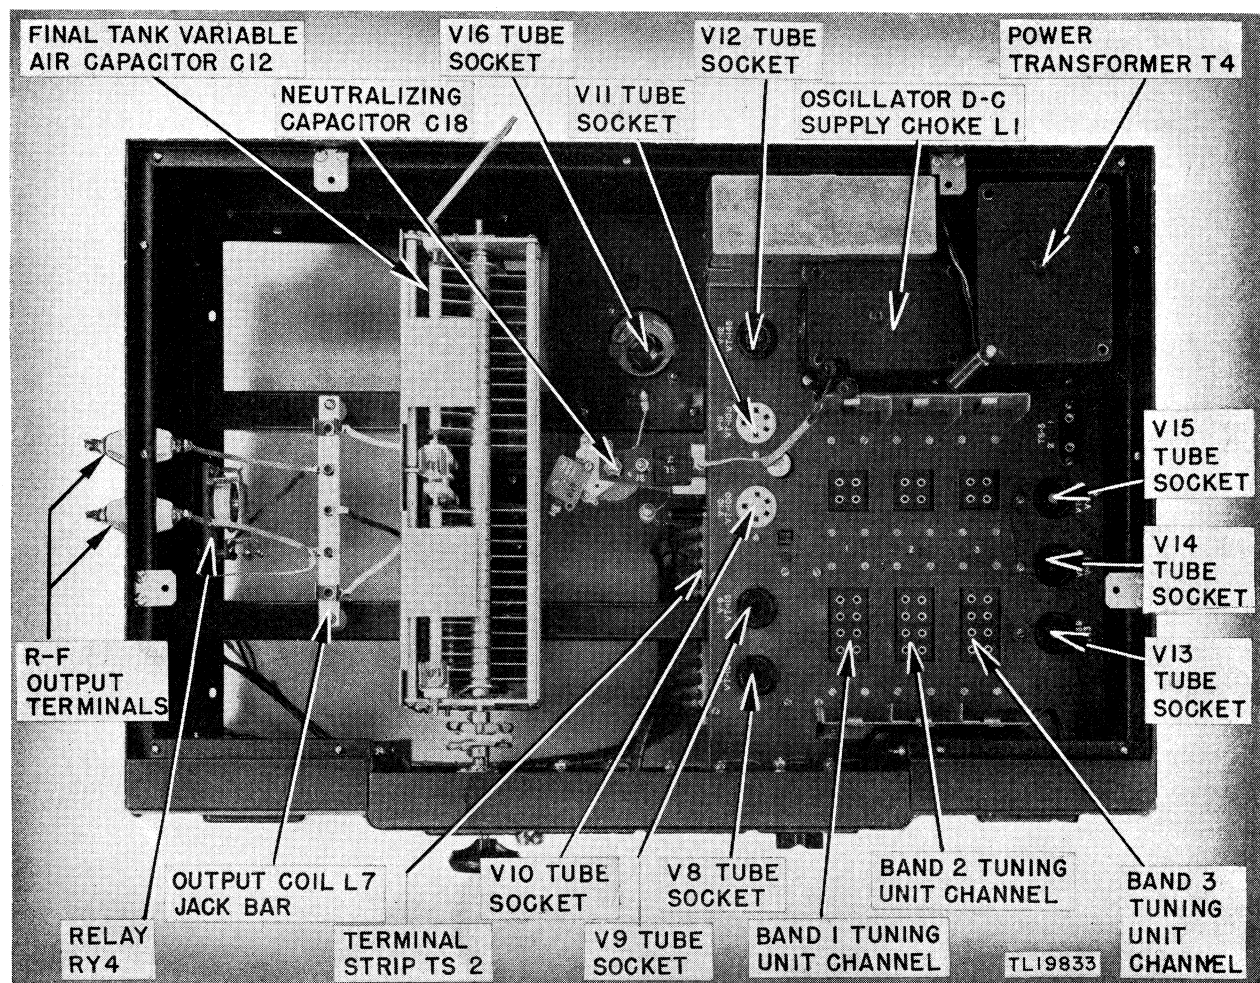
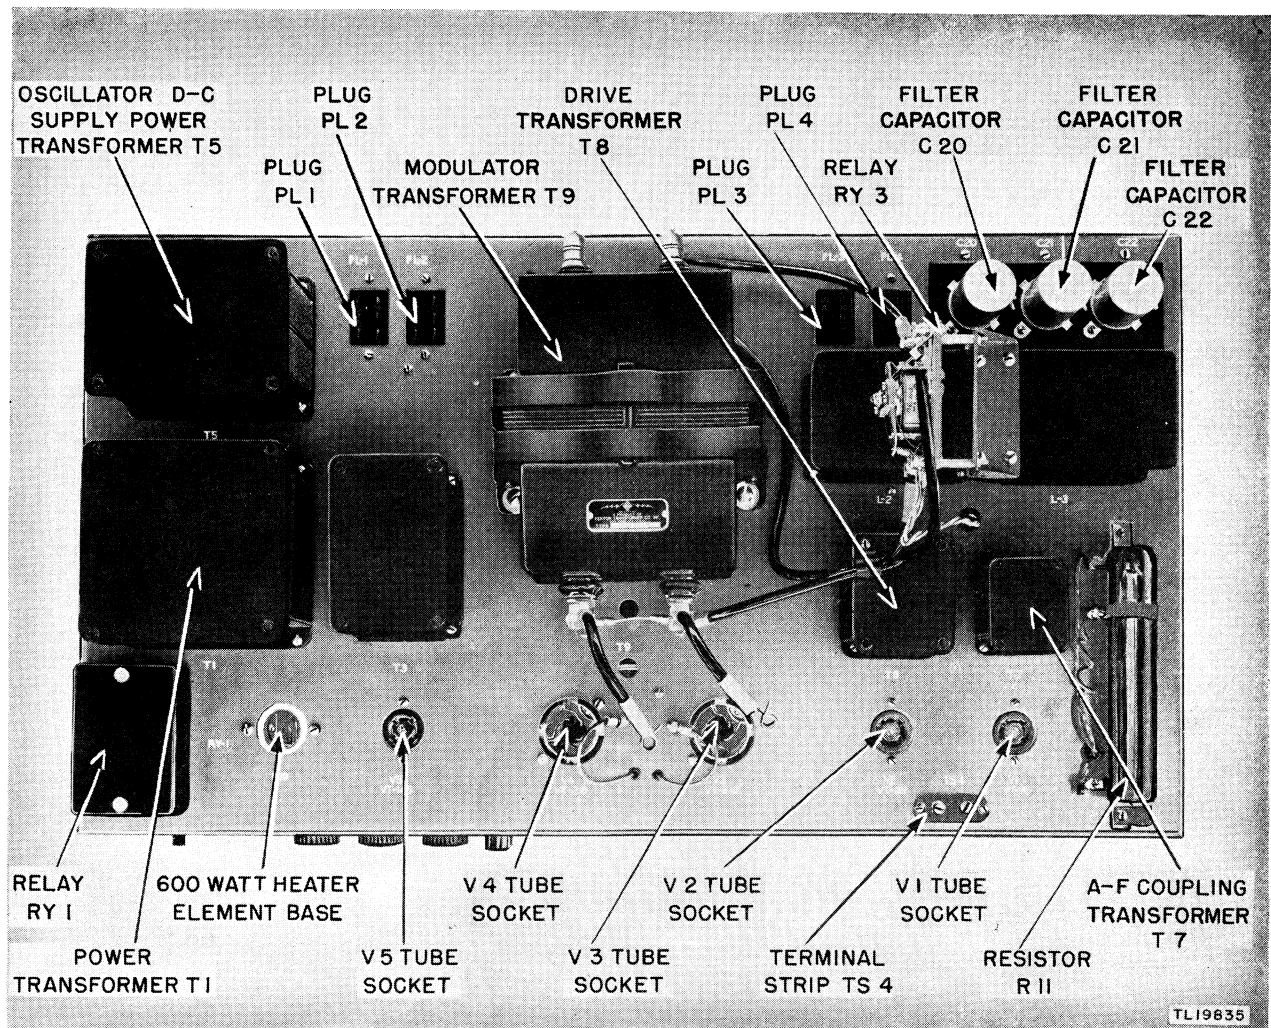

Figure 9. Radio Transmitter BC-610-A, -B, -C, and -D, r-f section, top view, less tubes, tuning units, coil unit, and vacuum capacitor.
Figure 11. Radio Transmitter BC-610-A, -B, and -C, modulator section, top view.
<p>ABCD</p> <p>M2, according to position of switch SW9, indicates plate current of buffer-doubler tube V9, and intermediate-amplifier tubes V10 and V11. (See figs. 9, 42, 43, and 44.)</p>	<p>E</p> <p>M2 (switch SW9 is not present) indicates plate current of p-a tube V16. (See figs. 9 and 45.)</p>
<p>ABCD</p> <p>M3 indicates filament voltage for p-a Tube V16. (See figs. 9, 42, 43, and 44.)</p>	<p>E</p> <p>M3 indicates same as ABCD. (See figs. 9 and 45.)</p>
<p>ABCD</p> <p>M5 indicates plate current of p-a tube V16. (See figs. 9, 42, 43, and 44.)</p>	<p>E</p> <p>M5 is omitted. (See fig. 45.)</p>
<p>ABCD</p> <p>Connection between resistors R26 and R27 is made through terminal 4 of terminal strip TS2 on models A and B, whereas the resistors are directly connected on models C and D. (See figs. 9, 42, 43, and 44.)</p>	<p>E</p> <p>Due to different meter arrangement, meter shunt resistors R28 and R33 are used in addition to resistors R26 and R27, and all four resistors are connected to socket SO11. (See fig. 45.)</p>
<p>ABCD</p> <p>Connection to terminal strip TS2 from the upper control panel for terminals 5, 6, 7, 8, 9, 10, 11, and 12 are made directly. (See figs. 9, 42, 43, and 44.)</p>	<p>E</p> <p>Connections to terminal strip TS2 from the upper control panel for terminals 5, 6, 7, 8, 9, 10, 11, and 12 are made through plug PL11 and socket SO11. (See fig. 45.)</p>
a. TUBES. (1) Tube JAN-250TH (V16) (VT-220) (fig. 9) and Tubes JAN-100TH (V3 and V4) (VT-218) (figs. 11 and 12). To remove tubes, disconnect grid connection from side of tube, and plate spring clip from top of tube; turn the tube counterclockwise until unlocked, and lift out of socket.
(2) *Tubes JAN-807 (V10 and V11) (VT-100) (fig. 9).* To remove tubes, disconnect plate spring clip from top of tube and lift tube out of socket. On Radio Transmitter BC-610-E, disconnect base clamps before lifting tube out of socket.
(4) *All other tubes (figs. 9 and 11).* To remove tubes, just pull them out of sockets.
b. OTHER PLUG-IN PARTS. (1) *Vacuum capacitors (figs. 9, 15, and 16).* To remove, grasp firmly the glass shell, but do not press excessively; release from spring clips, one clip at a time.
(7) *Plugs (figs. 11, 12, and 13).* To remove, grasp plug and pull out. Do not grasp the cord.
b. PREPARATION FOR REPAIR WORK ON R-F SECTION (figs. 9 and 10). (1) Disconnect four wires which are tied into a small cable from the terminal strip TS1 on the r-f chassis apron.
(2) Disconnect both leads from the P. A. PLATE meter M5 (M2 on Radio Transmitter BC-610-E).
(3) Disconnect the twisted pair feeding the coil on the antenna change-over relay RY4.
(4) Disconnect the black heavy high-tension